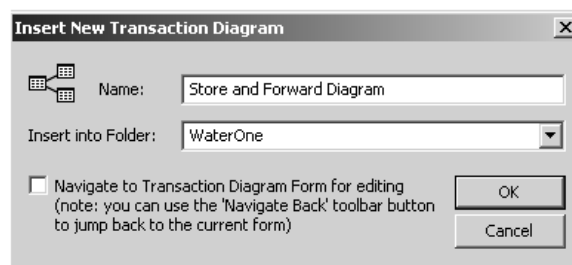

Figure L2.10 - Insert New Transaction Diagram
3. Click on the **Create New Diagram**  button to the right of the Transaction Diagram field and a new window appears. Name the diagram **Store and Forward Diagram** and name the folder **WaterOne**, as shown in Figure L2.10.